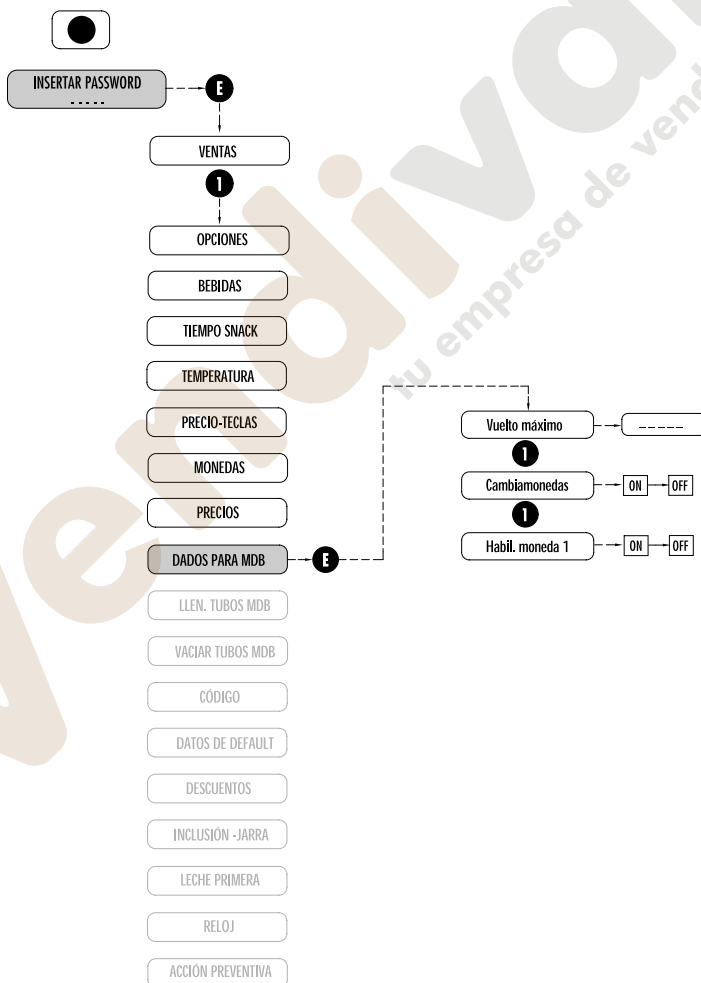

Fig. 7.12
7.2.9 DATOS PARA MDB (Fig. 7.12)